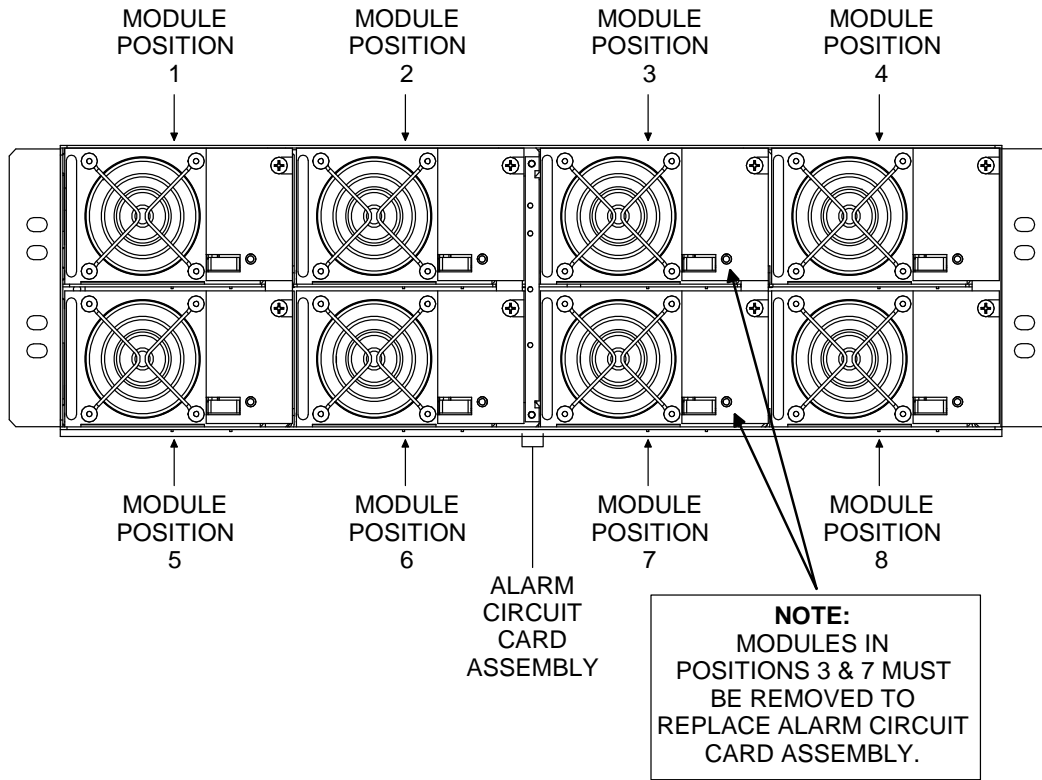

Figure 3
**Note:** *If installing less than eight Converter Modules, be aware that the modules in Mounting Positions 3 and 7 must be removed if the alarm circuit card assembly should require replacement. See Figure 3.*